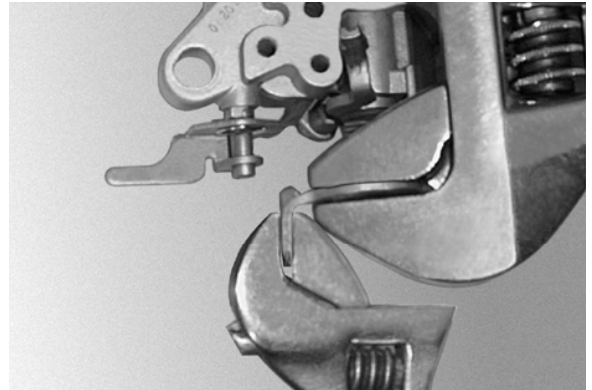

Fig. 2
- H. With the carburetor in a suitable work area, bend the damper tab on the main throttle arm until it is flat. (See Figs. 2, 3, 4.)